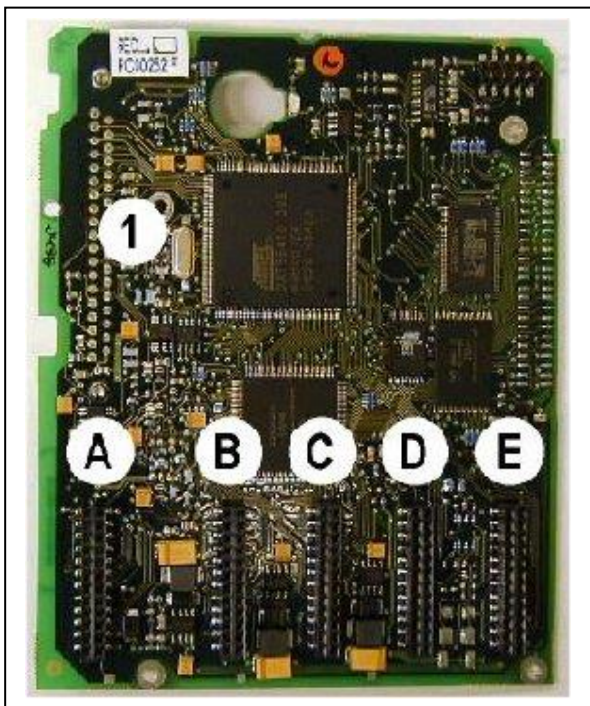
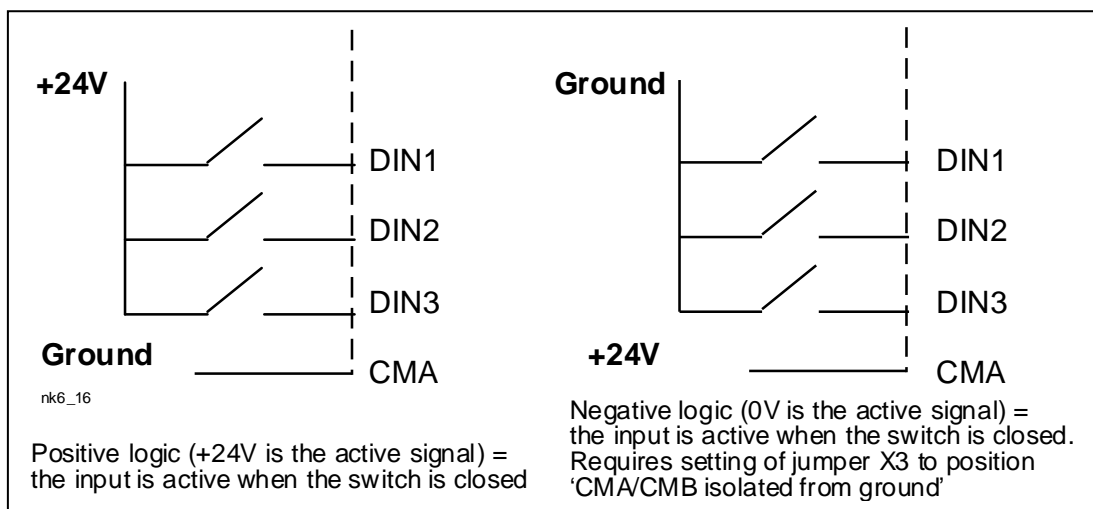

Figure 6-13. control board
Figure 6-20. Positive/Negative logic
The control unit of the inverter consists of the control board and option boards (see Figure 6-13 and Figure 6-20) connected to the five slot connectors (A to E) on the control board. The control board is connected to the power unit through a D connector (1).
The active signal level depends on which potential the common inputs CMA and CMB (terminals 11 and 17) are connected to. The alternatives are either +24V or ground (0 V). See Figure 6-20. We recommend the use of positive logic in all control connections of the inverter. If negative logic is used, additional appropriate measures are needed to meet the safety regulation requirements.